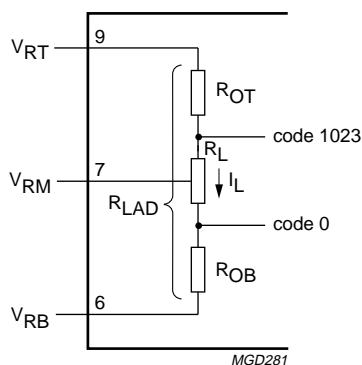

Fig.3 Explanation of note 3.
- In order to ensure the optimum linearity performance of such converter architecture the lower and upper extremities of the converter reference resistor ladder (corresponding to output codes 0 and 1023 respectively) are connected to pins VRB and VRT via offset resistors ROB and ROT as shown in Fig.3.